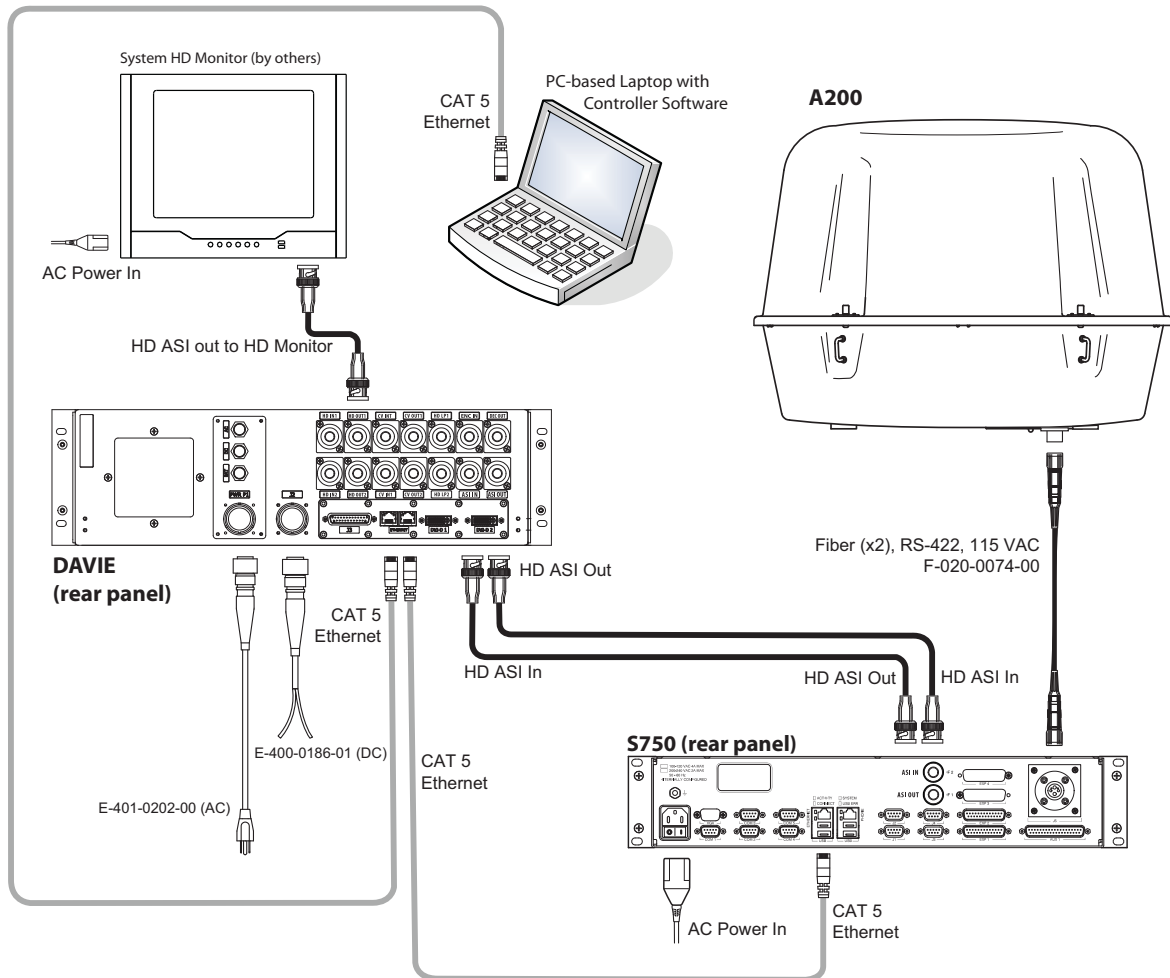

Figure 2-3. Ground System Connection Configuration
This section provides instructions for connecting the antenna and operating the Receive System remote site set-up. Refer to the information herein for handling, installation and connectivity of this system. For a diagram showing the complete system configuration refer to Figure 2-3.
7. Once the cables are connected to the A200, connect the other end of the control cable to the control port located on the rear panel of the S750 remote controller (refer to Figure 2-3).